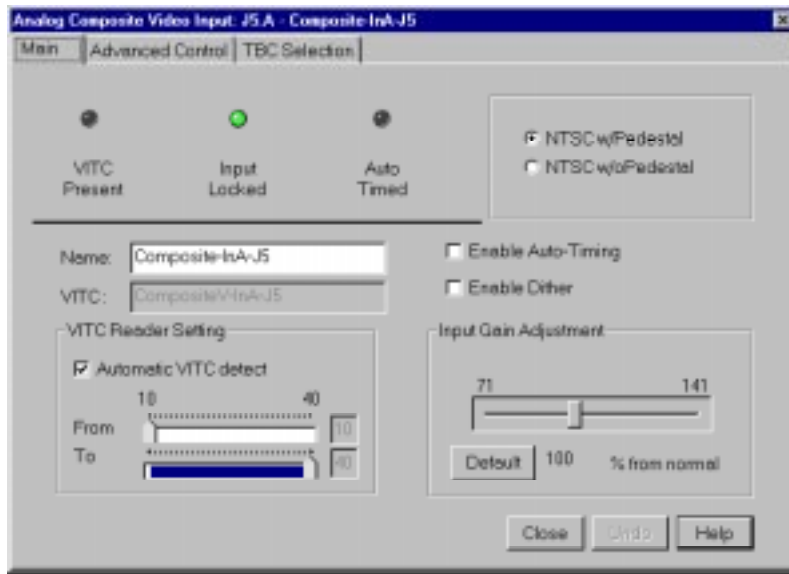
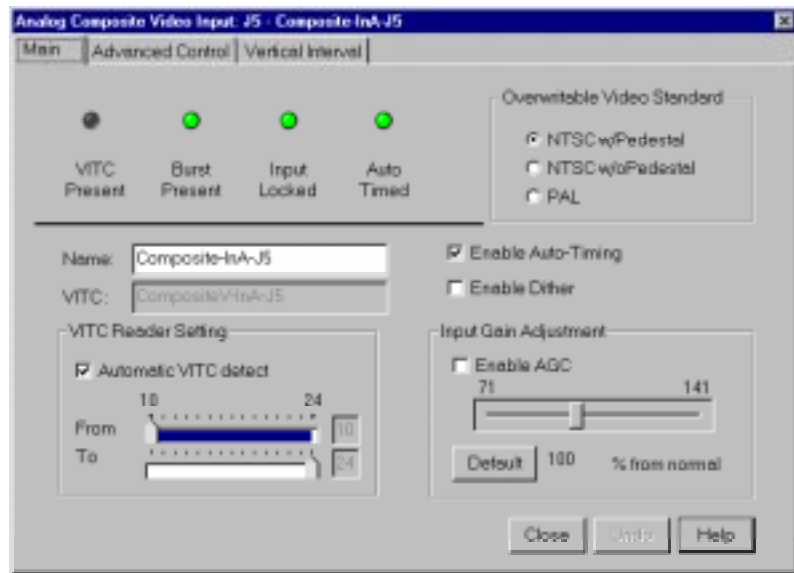

Figure 12. Analog Composite Video Input dialog box, Main tab (A)
Figure 13. Analog Composite Video Input dialog box, Main tab (B)
1. Select **Video Input** from the configuration tree, and then click or double-click an analog composite input from the list, such as *Composite-InA-J5*. The Analog Composite Video Input dialog box appears (Figure 12 for current analog composite cards and Figure 13 for earlier cards).